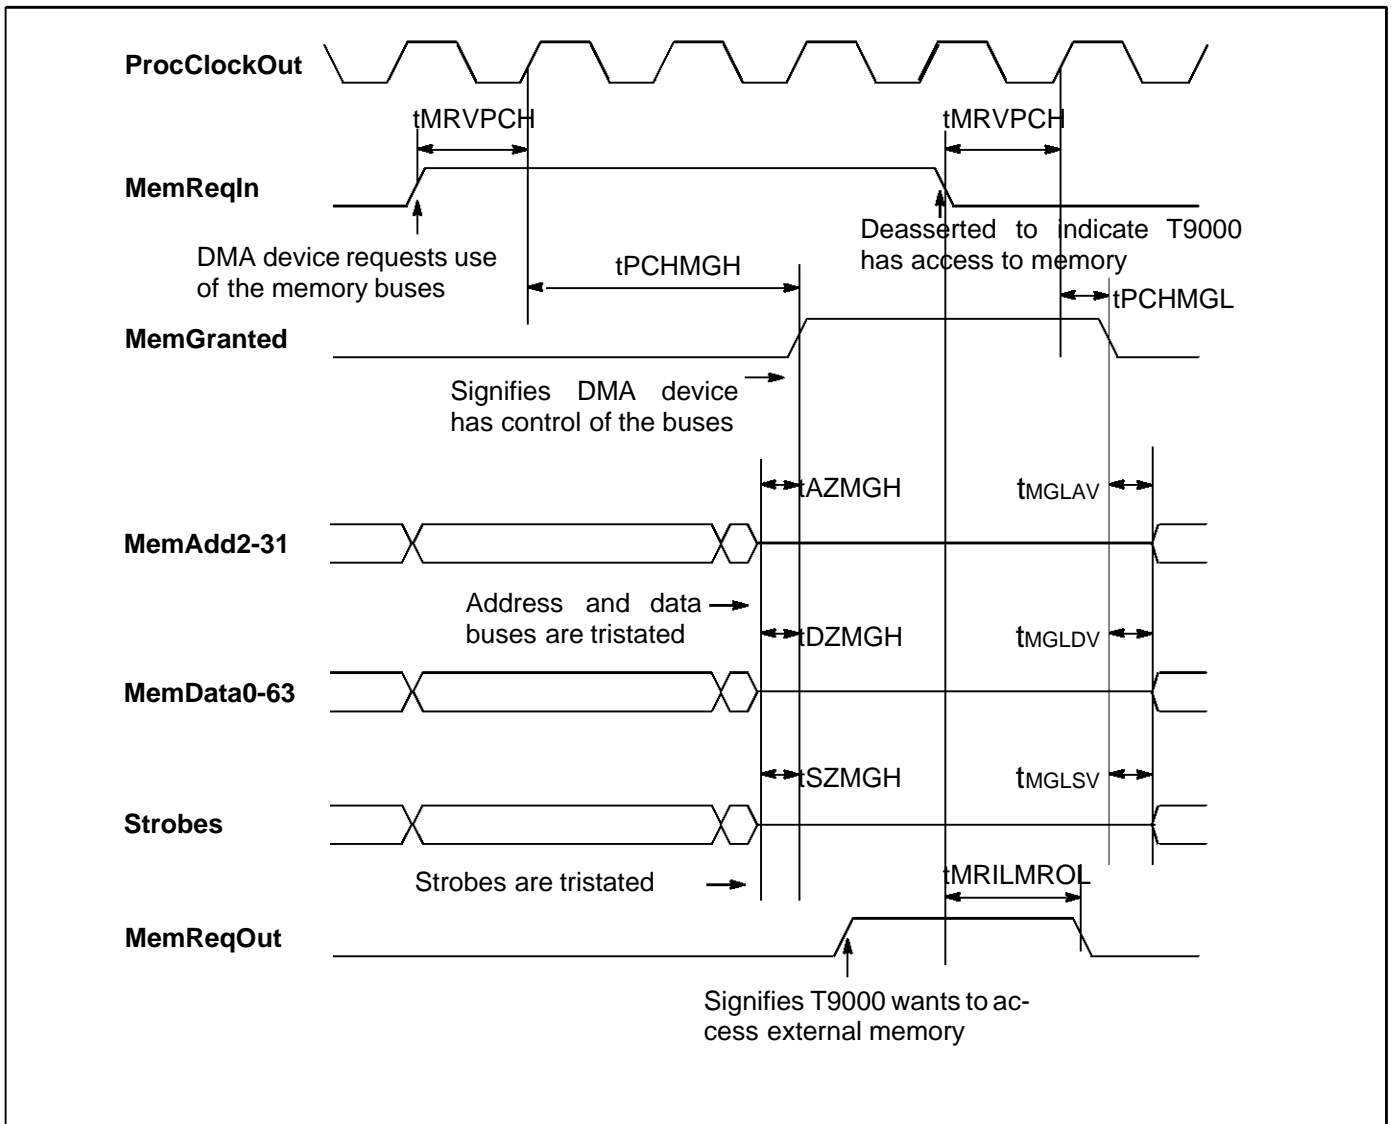

Figure 3.5 DMA
The **MemReqIn** pin high causes the IMS T9000 to tri-state its memory buses so that an external DMA can access memory. **MemReqIn** is sampled during each cycle of **ProcClockOut**, whilst the PMI is idle, or on the last cycle of any external access. If the current cycle is a four-word cache line refill then the four words of the line are read in before the PMI responds. If the cycle is a refresh cycle it is allowed to terminate before the PMI responds. If the current cycle is a word transfer to a smaller port then the interface completes the transfer of the sub-words before responding. **MemGranted** is asserted during the first clock cycle after the current cycle terminates. The address bus, data bus and the strobes are tristated during this clock cycle (see also Figure 3.5).
- 1 In Figure 3.5 **Strobes** consist of the following signals: **notMemRAS0-3**, **notMemCAS0-3**, **notMemPS0-3**, **notMemRf** and **notMemBootCE**.